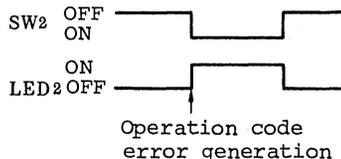

Figure 15-6. Example of FSOP Execution
b. Example of FSOP execution is shown in figure 15-6. When operation error is generated, turn on LED2.